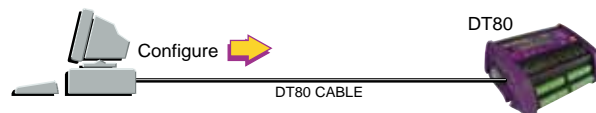

Figure 35: Use a direct connection to configure the *DT80* for a remote connection
1. Configure the following *DT80* `PROFILE...` parameters using a direct connection between a local computer (running DeTransfer, DeLogger or HyperTerminal) and the *DT80* (Figure 35 \(P103\)):